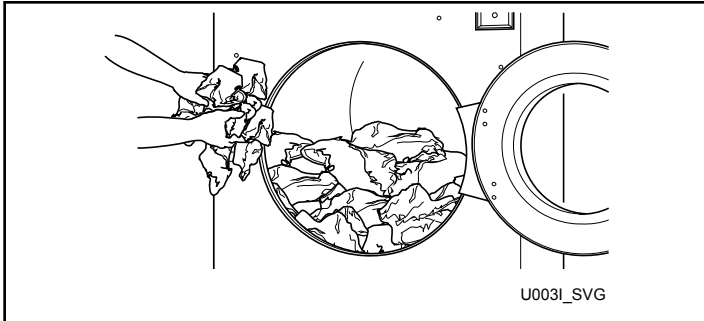

Figure 33
3. Load to capacity whenever possible. DO NOT OVERLOAD. Refer to *Figure 33*.